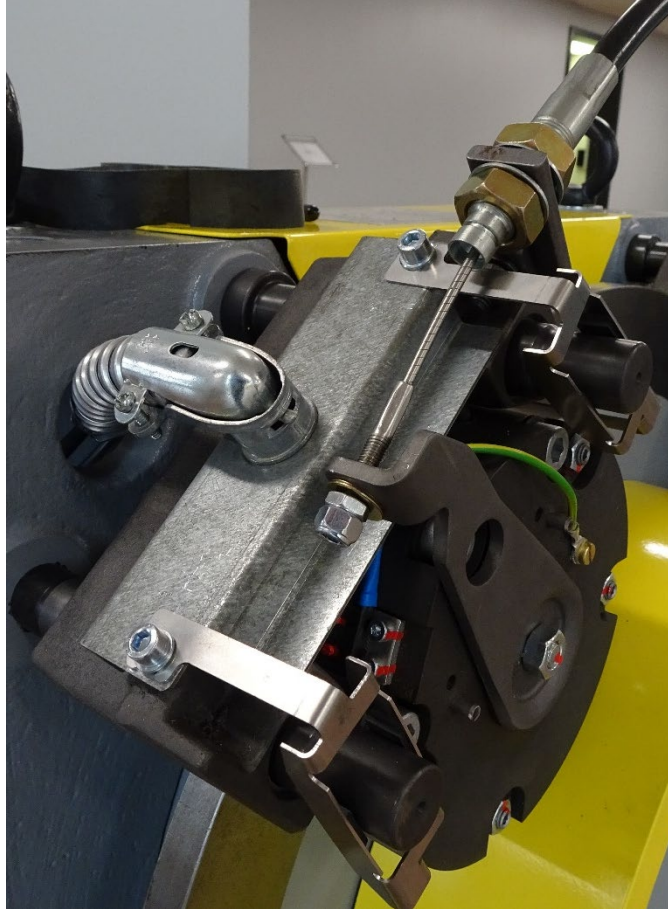

Figure 11 Manual Brake Release
- The manual brake release cable is optional equipment (Figure 11) that should be specified at the time of ordering. The standard cable length is 8'. Other lengths are available by special order up to 30'. H-W does not recommend cable lengths greater than this.